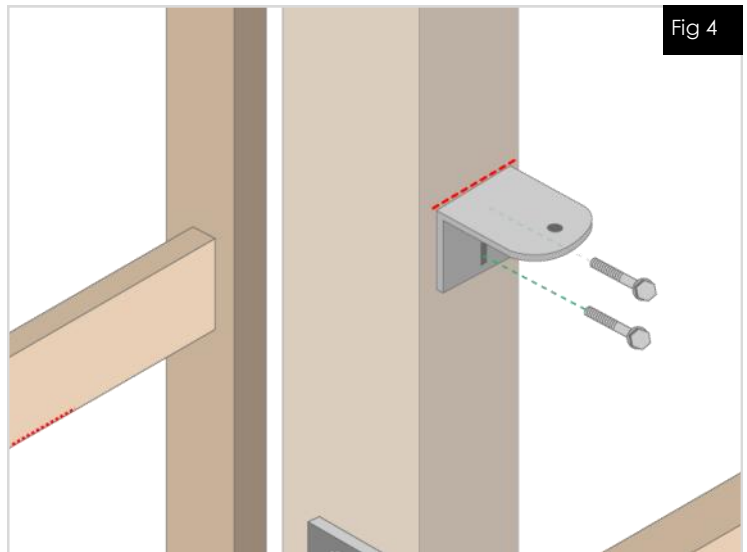

Fig 4
6) Place the lower “L” shaped bracket so the top of the bracket is aligned with the mark on the post. Mark then drill and attach the bracket using 3/8” carriage bolts. [See Fig. 4]